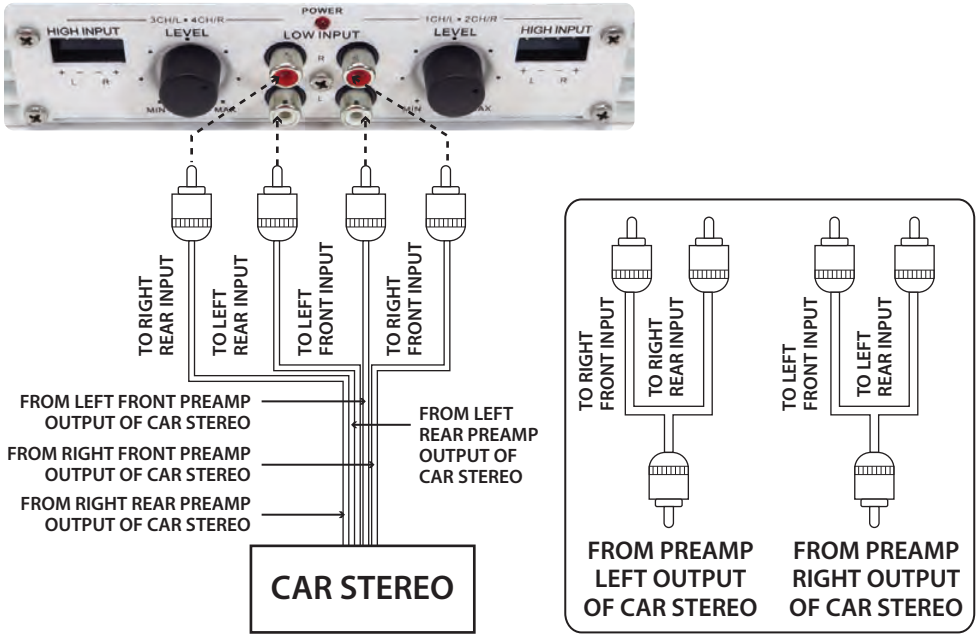

FIG 2
- 4. HIGH IMPEDANCE INPUT (LOW LEVEL INPUT):** This unit is provided with gold plated RCA input jacks for high impedance. Couple the RCA input with the car stereo output using RCA type connector cables. If your stereo has only left and right 2 channels outputs. You must use a Y-adaptor for connection (FIG 2).